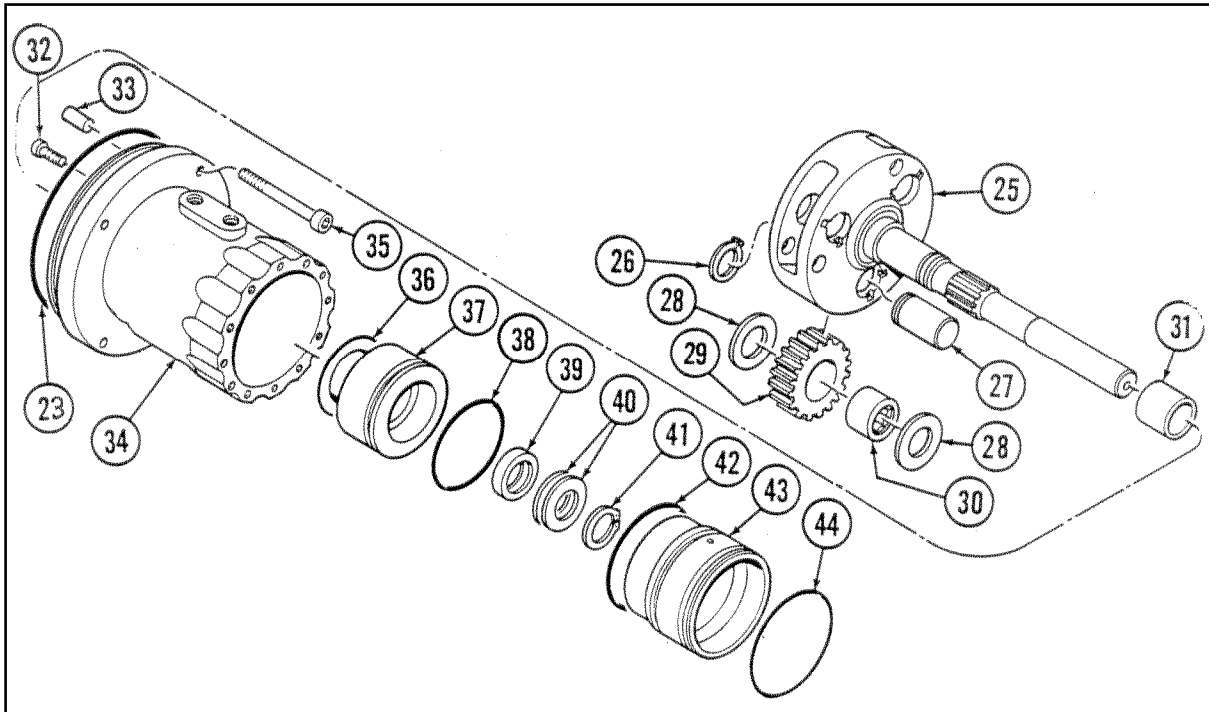

Figure 4. Gearbox Housing Assembly
The gearbox housing assembly, refer to figure 4, consists of a planet gear carrier and output shaft (25), three planet gears (29), needle bearings (30), spacers (28), and planet shafts (27).